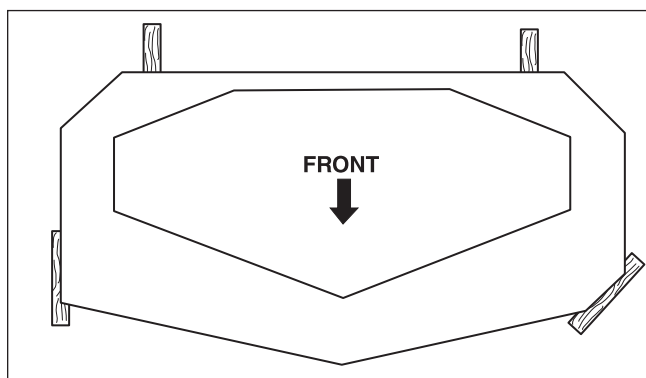

Figure 38. 2 x 4 Locations
6. Block up the mower deck until all hanger chains are slack. Refer to Figure 38.
3. Place 2 x 4 blocks under each corner of the mower deck with the 3-1/2" sides being vertical. See Figure 38.